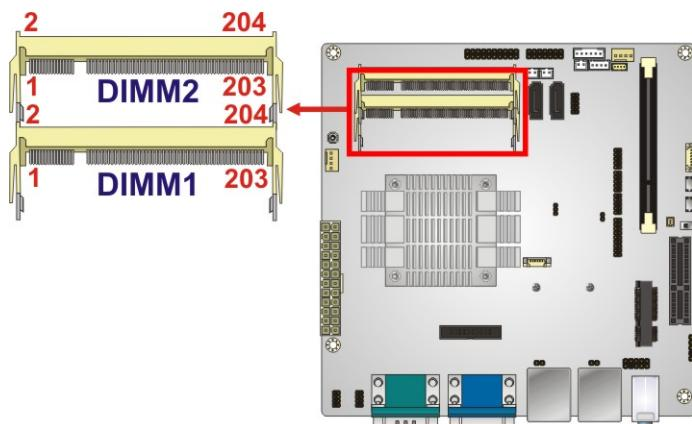

Figure 3-15: Memory Card Slot Locations
**CN Location:** See Figure 3-15